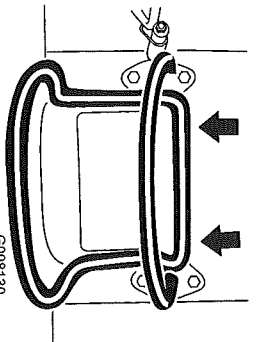

Figure 8
- To move rearward, move the traction control rearward (Figure 8). When reversing, look behind for obstructions and keep your hands on the reference bar.